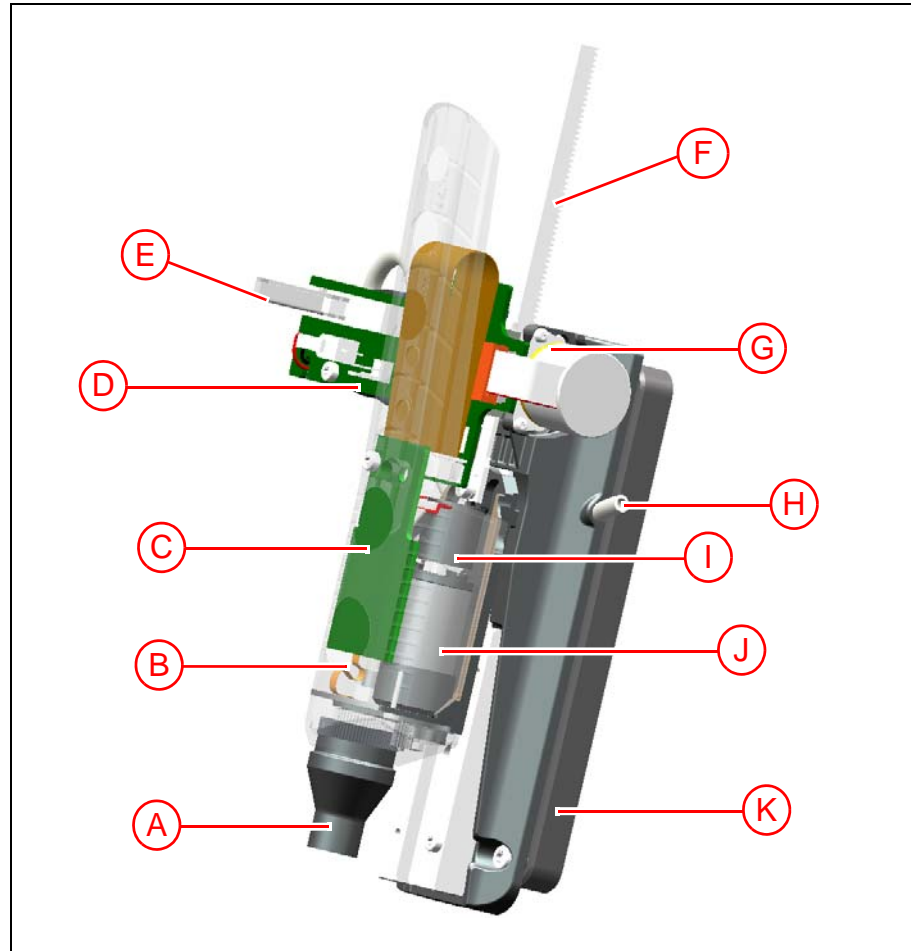

Figure 6-7. Midas II.
- Tool holder with sealing ('A' in Figure 6-7).
Midas II consists of two main units, the Z unit and the Theta unit (See Figure 6-7), which are assembled together. These two units include all devices needed for the Z movement and the Theta movement respectively.
If the placement machine is equipped with the new mount head carrier plate (X wagon), then Midas II can be attached directly to the X wagon using three screws. Otherwise an adapter plate (see 'K' in Figure 6-7) is used to match the Midas II hole pattern with the hole pattern on the X wagon.